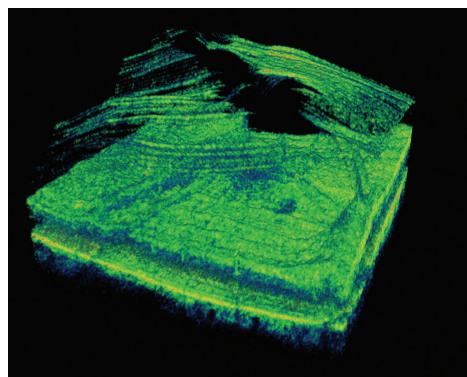

Figure 2
imaging, observation fell on a small area of elevated retinal pigment epithelium with overlying edema. Upon examination of his optic nerve, there appeared to be dramatic papilledema present (Figure 2), and using 3D OCT imaging, I was able to demonstrate the critical nature of this condition to the patient, who had been unaware of any problems. He was quickly referred to neurosurgery for evaluation based on what was observed with the OCT. The patient was diagnosed with a baseball-sized tumor in his brain; the neurosurgeon said that he had never seen a patient with a brain tumor of this size who had not had a stroke or a bleed and was surprised that it had gone completely unnoticed until now. The tumor was removed successfully and without complications. This case demonstrates the importance of looking for details during patient evaluations, which can be achieved effectively with advanced OCT imaging. In addition to helping to diagnose pathologies, 3D OCT allows me to communicate more effectively with patients, by enabling me to show them what I am seeing inside their eyes.
**Figure 2:** With 3D OCT imaging Dr Durrie was able to show his asymptomatic patient the severe papilledema in his eye that was subsequently identified by a neurosurgeon to be caused by a baseball-sized frontal lobe tumor.